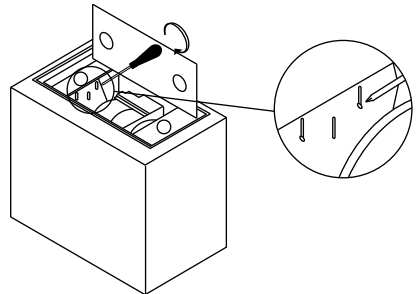

Fig 8
4. Undo the screws slightly holding the fixing plates to the Rigoletto (Fig 8).